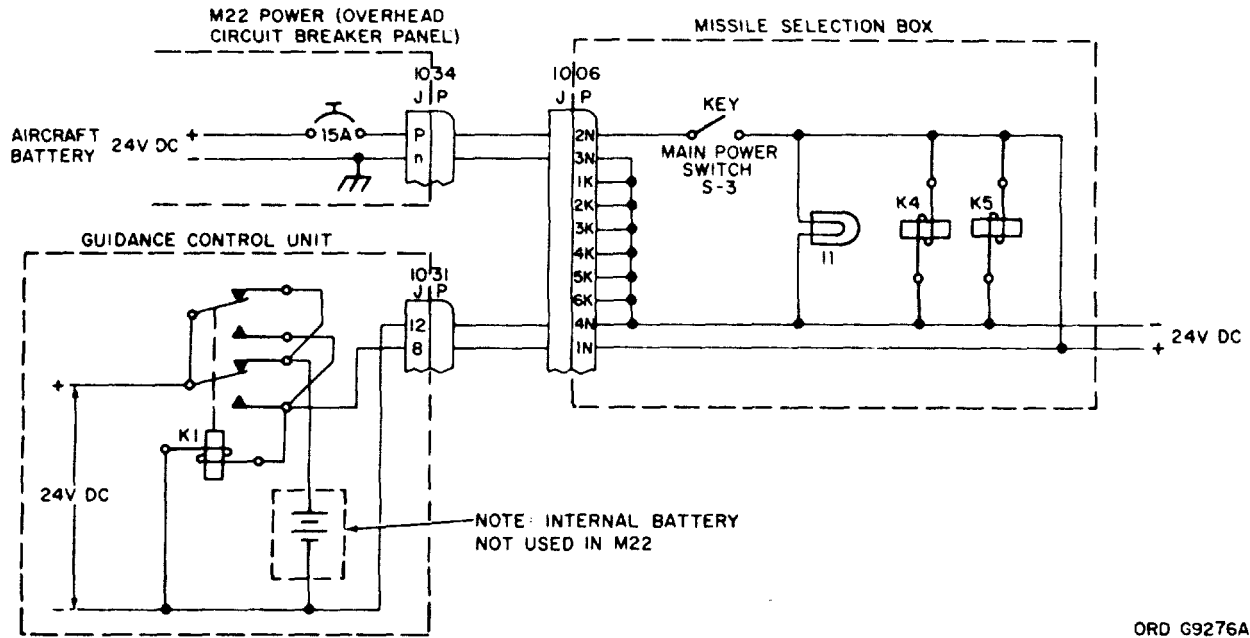

Figure 12. Power source (functional schematic).
15. Power Source (fig. 12)
Electrical power for operating the system is taken from the helicopter 28 vdc supply. Figure 12 shows the normal control power applied when the SS-11 MISSILE POWER circuit breaker is depressed and the key switch (S3) is placed in the ON position. Also, the jettison power is applied when the SS-11 JETTISON circuit breaker is depressed and the pilot's or gunner's jettison switch is closed.